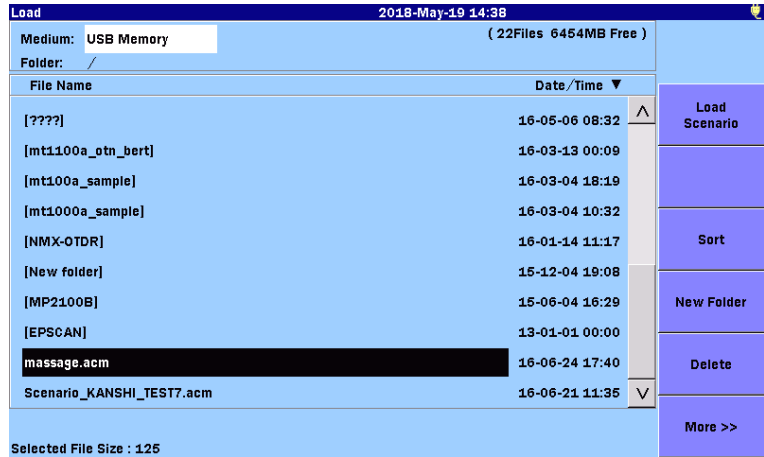

Figure 14.2-3 Load Screen
4. Touch the name of a scenario file you want to load on the Load screen. The selected file is highlighted as Figure 14.2-3.